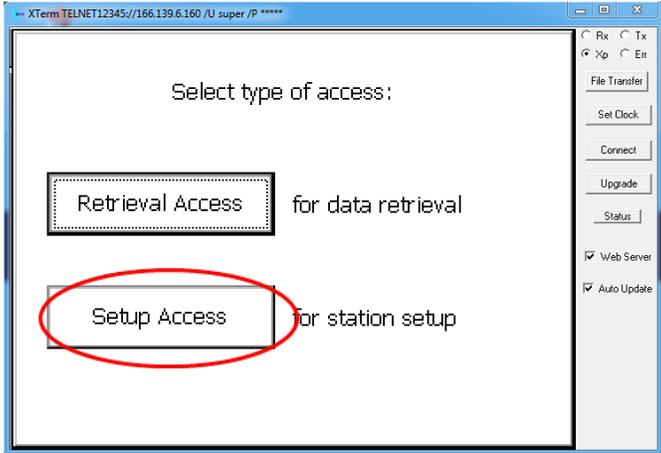

Figure 3-6. Xpert access selection.
- 4. You will be prompted to select from two access types. Click the **Setup Access** button (fig. 3-6).